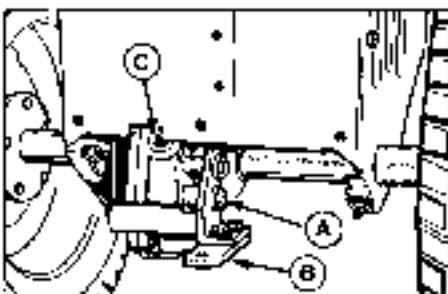

Figure 14. Transmission Oil Level Check (Drawbar Removed)
- Remove the transmission oil level check capscrew (A, Figure 14).
- Oil should be level with bottom of hole. If not, remove the fill plug (C) and add Allis-Chalmers Power Fluid 821. When level with check hole replace and retighten capscrew and fill plug. (Apply sealant to capscrew thread before reinstalling).